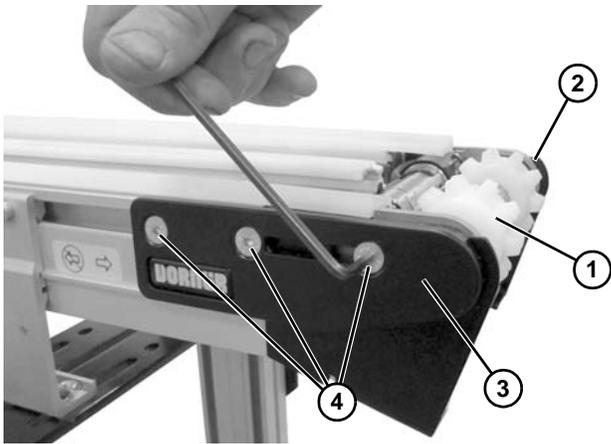

Figure 73
1. Install drive spindle (Figure 73, item 1) into head plate (Figure 73, item 2). Install head plate (Figure 73, item 3) and install screws (Figure 73, item 4).